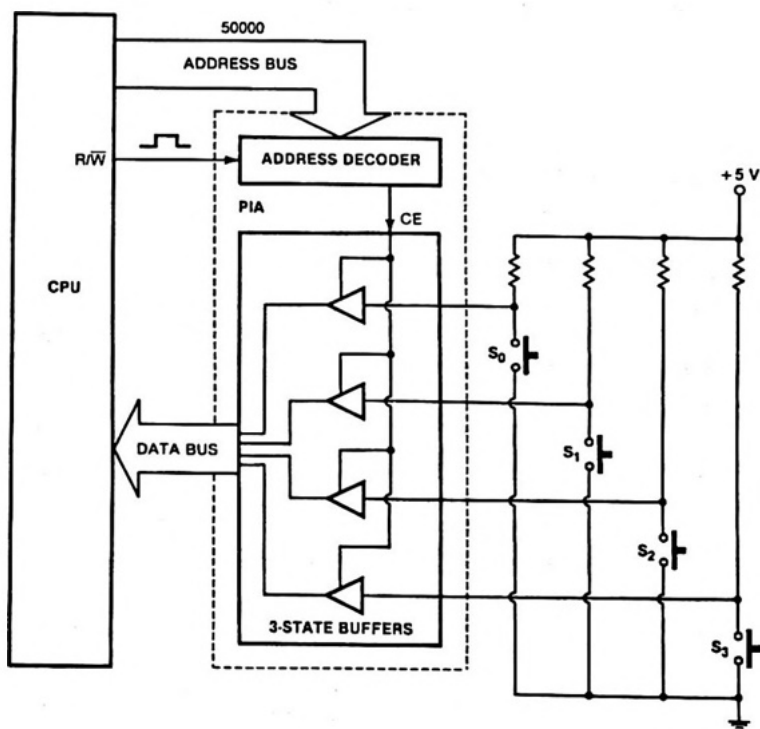
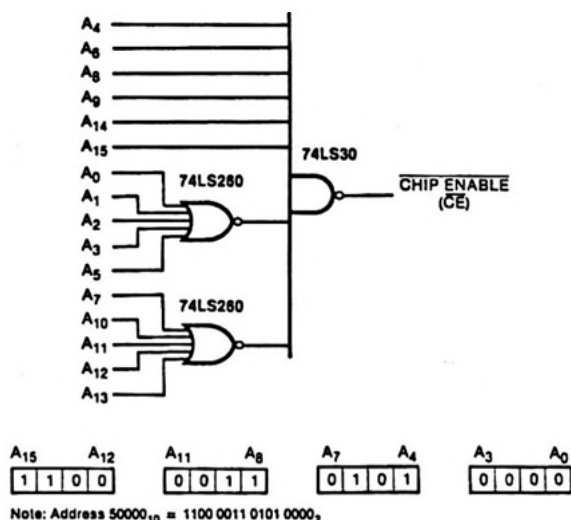

Figure 3-1 An input interface, or port, consists of an address decoder and 3-state buffers.
Figure 3-7
The circuit in Fig. 3-1 illustrates an input interface between four switches and the CPU. Here, the four switches are being used to feed four bits of binary data into the system. The switches are connected to a +5-volt dc supply through *pull-up resistors*. An open switch will cause a logic 1 to be present, while a depressed switch that makes contact with ground will cause a logic 0 to be present. The input port consists of two functional parts, as shown in Fig. 3-1—an *address decoder* and a series of *3-state buffers*. The address decoder provides an interface for the address bus, and the 3-state buffers provide an input interface for the data bus.
Recall that in a memory-mapped I/O system, peripheral I/O devices must be assigned to an address or group of addresses within the address space. In Fig. 3-1, the four binary switches are assigned to a unique address. We have chosen decimal address 50000 for this example. Thus, the CPU must *read* the input switch data by placing address 50000 on its address bus and performing a read operation. In addition, this address must be recognized as the address of the switches by external circuitry. This is the job of the address decoder.
Notice that the address decoder output in Fig. 3-1 is connected directly to the enabling line (CE) of the 3-state buffers. Consequently, when the decoder recognizes the proper address (50000) on the address bus, it will enable the 3-state buffers such that the input switch data is passed to the CPU via the data bus. Here, only four lines of the 8-bit data bus are required, since only four switches are being interfaced. However, up to eight switches can be interfaced to the CPU data bus and assigned to one unique address using this technique. Each switch must be connected to a single data bus line via a 3-state buffer. Once the switch data is read, the on/off switch data is represented by the 1 or 0 status of the bits within the 8-bit data byte.
In Figs. 3-1, 3-4, and 3-6 you saw the use of an address decoder. The address decoder is necessary to recognize the proper address from the address bus and then to enable the I/O circuitry for data transfer. An address decoder can be a series of logic gates configured to recognize a particular address, or it can be a series of decoder chips that make the logic design less complicated.
Suppose, as in Fig. 3-1, that your I/O device is assigned to address 50000. Your decoder circuit must be capable of detecting this address and then enabling the 3-state buffers. A typical TTL logic circuit that could perform this function is shown in Fig. 3-7. The *decoding chart* at the bottom of Fig. 3-7 shows the necessary address line binary bit
status for address 50000. Here, we are decoding *all* 16 of the address bus lines, such that the *only* address that will cause a chip enable (CE) is address 50000. When all of the address bus lines are decoded as in Fig. 3-7, we say that the address is *fully*, or *absolutely*, *decoded*.
You will notice from Fig. 3-7 that all the logic 0 address lines are NORED, since an all logic 0 input is the *unique* state of a NOR gate. This means that the only time the output of a NOR gate is high (logic 1) is when all of its inputs are low (logic 0). You will also notice from Fig. 3-7 that all logic 1 address lines are NANGED, since an all logic 1 input is the unique state of a NAND gate. Thus, to decode any address you can simply NOR the logic 0 bits of that address and NAND the logic 1 bits of the address. The NOR gate outputs are NANGED along with the logic 1 address lines, as shown in Fig. 3-7, to provide the final active-low chip enable output from the decoder. By tracing the logic through the circuit in Fig. 3-7, you will find that the chip enable output is low for one unique address—50000.